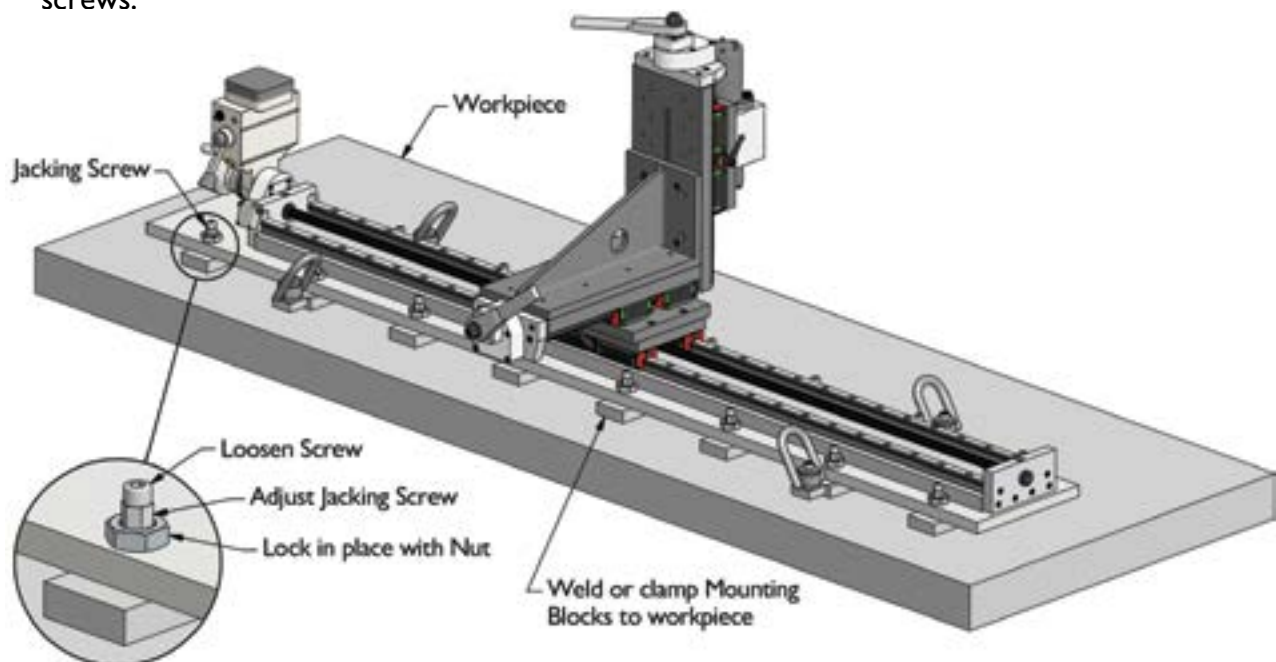

Figure 3 - Mounting Block Attachment
1. Clamp or weld the mounting blocks to the workpiece. Make sure the mill is firmly secured to the workpiece. See Figure 3.